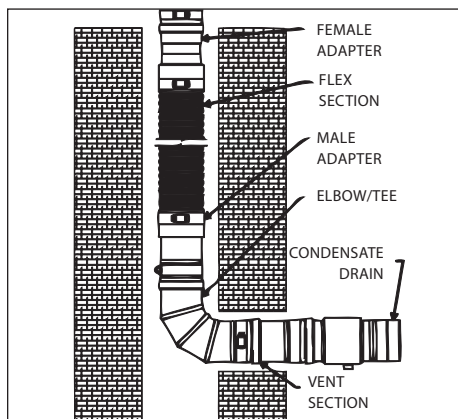

Figure 11
4. The FasNSeal Flex must stay within the masonry chimney; however the Elbow or other FasNSeal components will extend beyond the masonry chimney. (**Figure 11**)